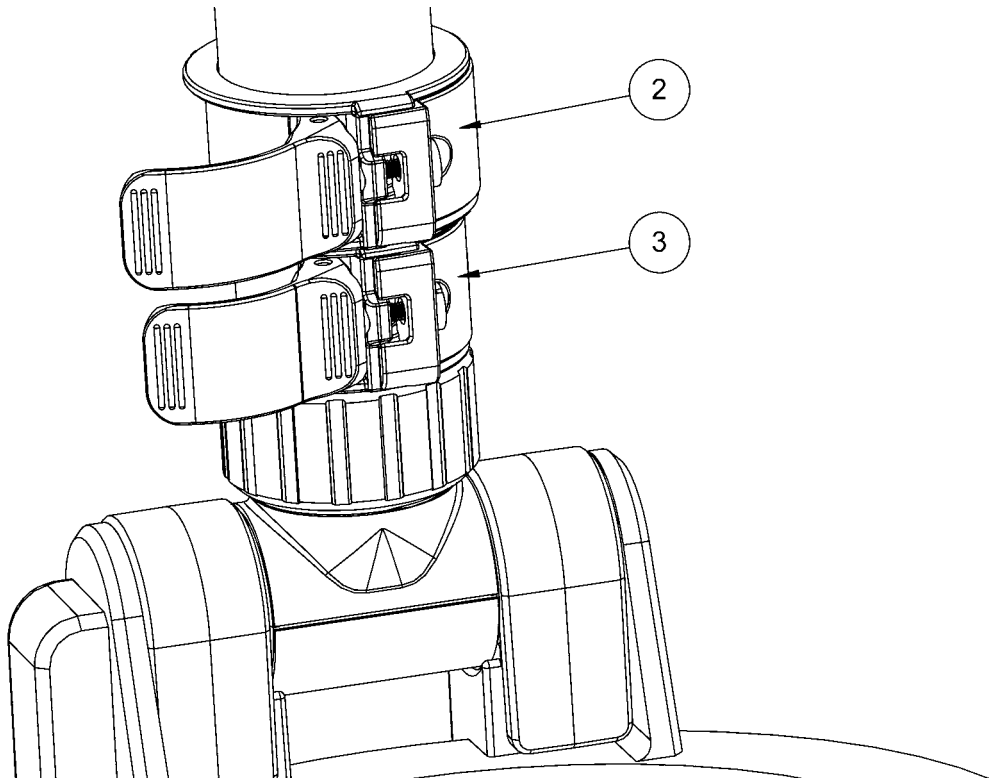

Fig. 5.2.4: Adjusting the telescopic rod: (2) Center clamp; (3) Bottom clamp
4. Open the center and bottom clamp on the telescopic rod, see fig. 5.2.4. Extend the telescopic rod to the desired length. Close the centre and bottom clamp.